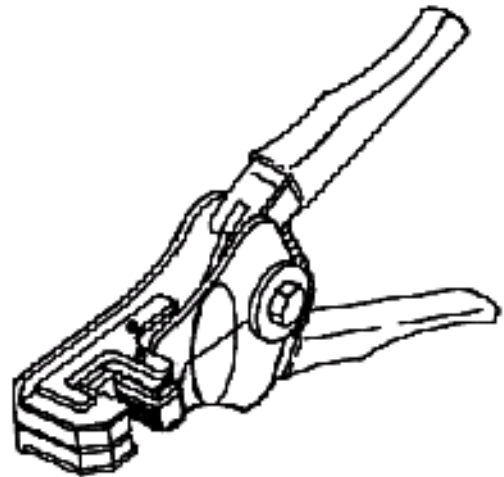

Figure 19. Stripmaster Wire Stripper
24. **Stripmaster Wire Stripper.** Stripmaster wire stripper is a versatile production workhorse featuring single-squeeze operation. It strips wire clean up to a full 7/8 inch. Automatic feature holds jaws open for removing wire without crushing end. Ideal for lighter-gage wire (Figure 19). Features of this model are as follows: